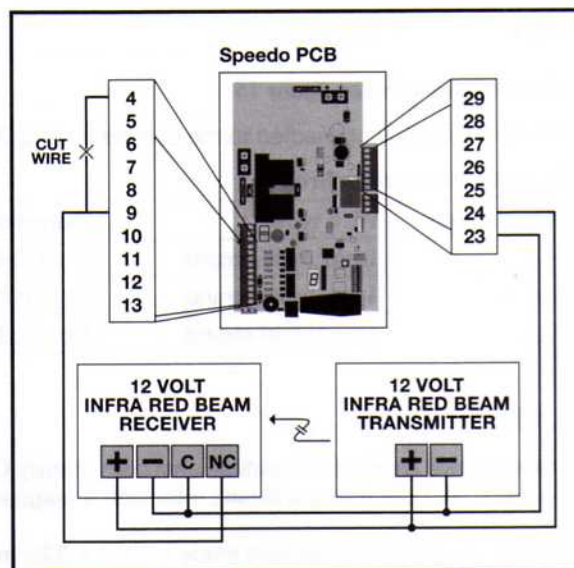

Figure 11
3.4.1 HOW TO CONNECT AN I.R.BEAM See figure 11